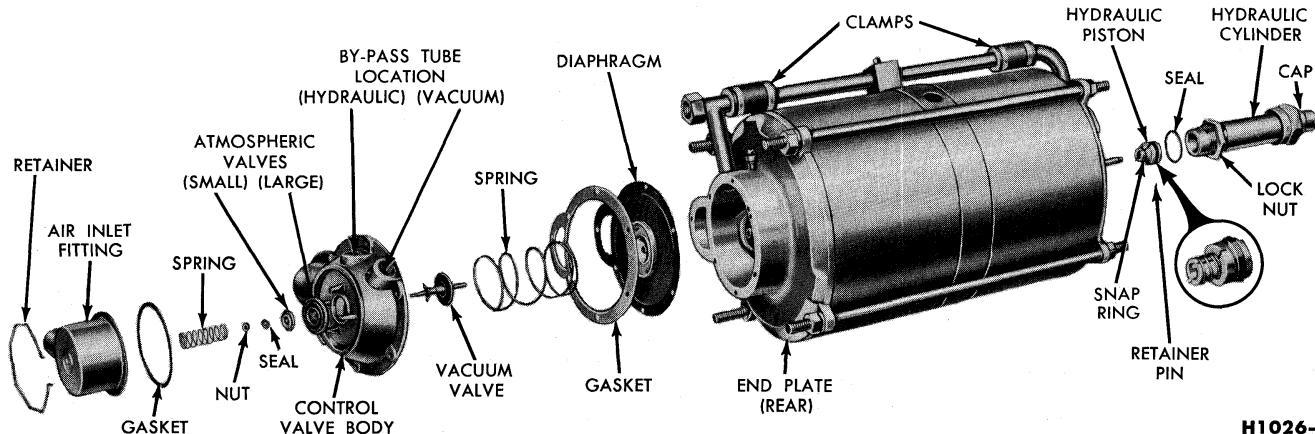

FIG. 38—Tandem Piston-Type Vacuum Booster
2. Remove the screws retaining the control valve body to the end plate, and remove the control valve body spring, gasket and diaphragm from the rear end plate (Fig. 38).
4. Loosen the hydraulic cylinder lock nut, and remove the hydraulic cylinder and seal (Fig. 38).
32. Assemble the vacuum control valve parts in the control body in sequence shown in Fig. 38. Install a new lead washer.